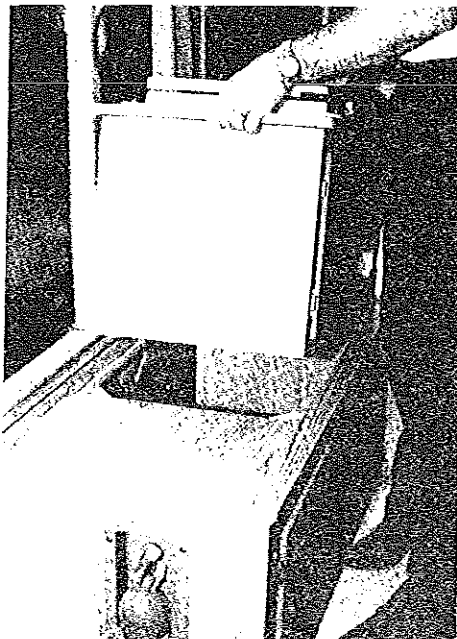

FIGURE 26
30. Move stove cabinet from floor storage location and position into cut out on hutch cabinet top. See Figure 26.